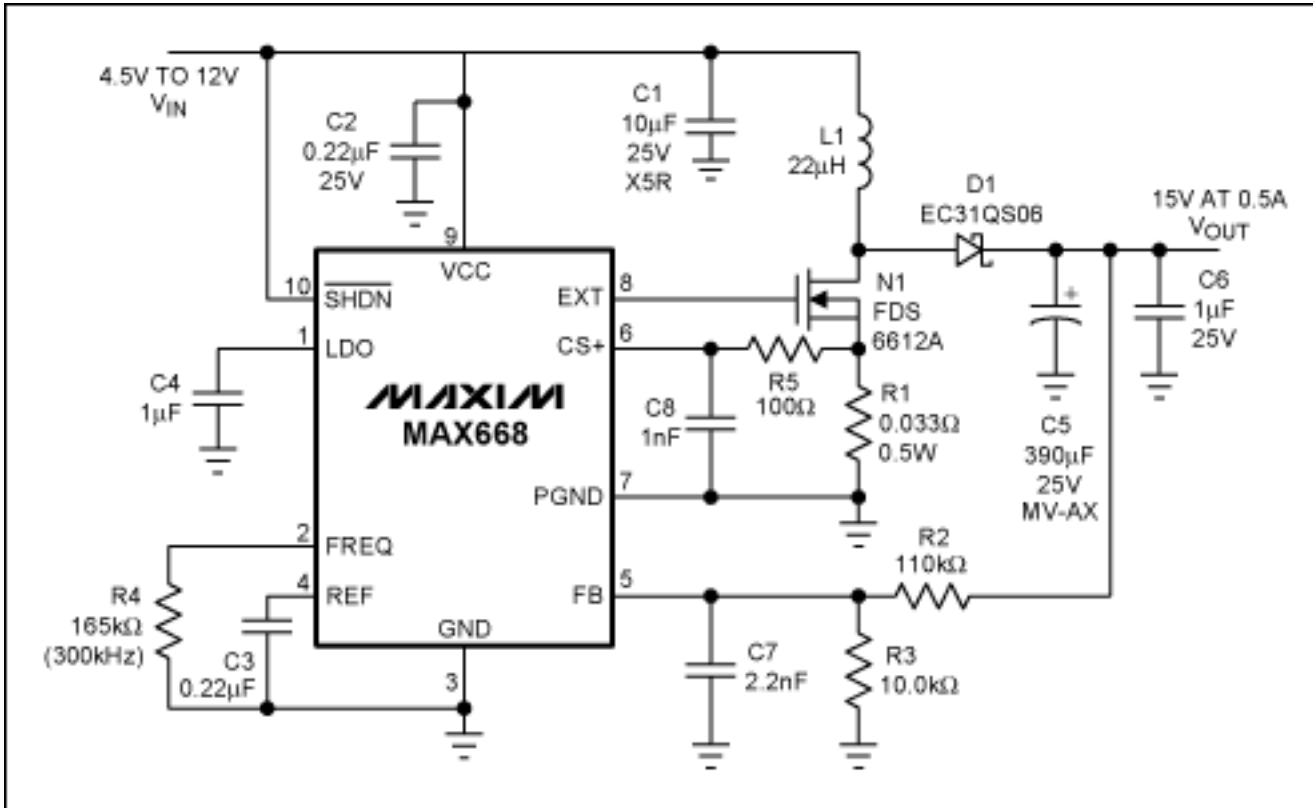

Figure 1. This diagram uses the MAX668 boost circuit to implement a +15V at 0.5A output from a 4.5V to 12V input.
**Figure 1** illustrates how to use the MAX668 boost circuit to implement a switch-mode power supply that provides a +15V at 0.5A output from a 4.5V to 12V input. This MAX668 circuit adds a few components to the minimum circuit implementation. C7 adds a pole to compensate for the ESR-zero of the output capacitor. R5 and C8 filter the current-sense voltage to prevent high-frequency switching noise from prematurely tripping the current limit. This functionality is in addition to the MAX668's internal 60ns current-sense blanking time.